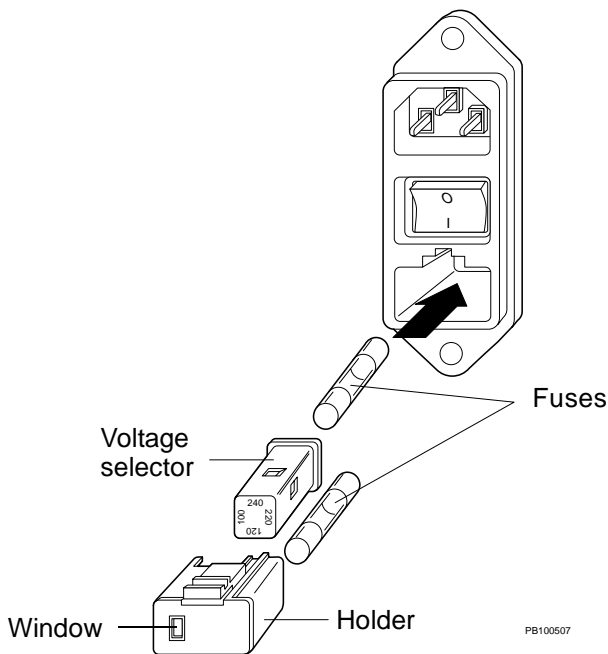

Figure 2-1 Selecting Input Voltage and Installing Fuses
2. Carefully remove the voltage selector/fuse holder from the system (Figure 2-1) using a small flat-blade screw driver.